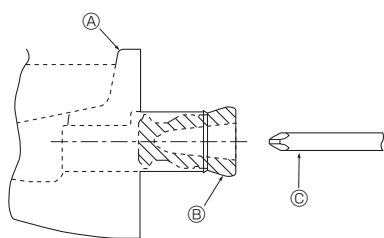

Fig. 5-1
- For left side tubing, be sure to insert the rubber plug into the right drain port. (Fig. 5-1)
- ① Drain pan
- ② Plug
- ③ Insert the driver etc.in the plug deeply.